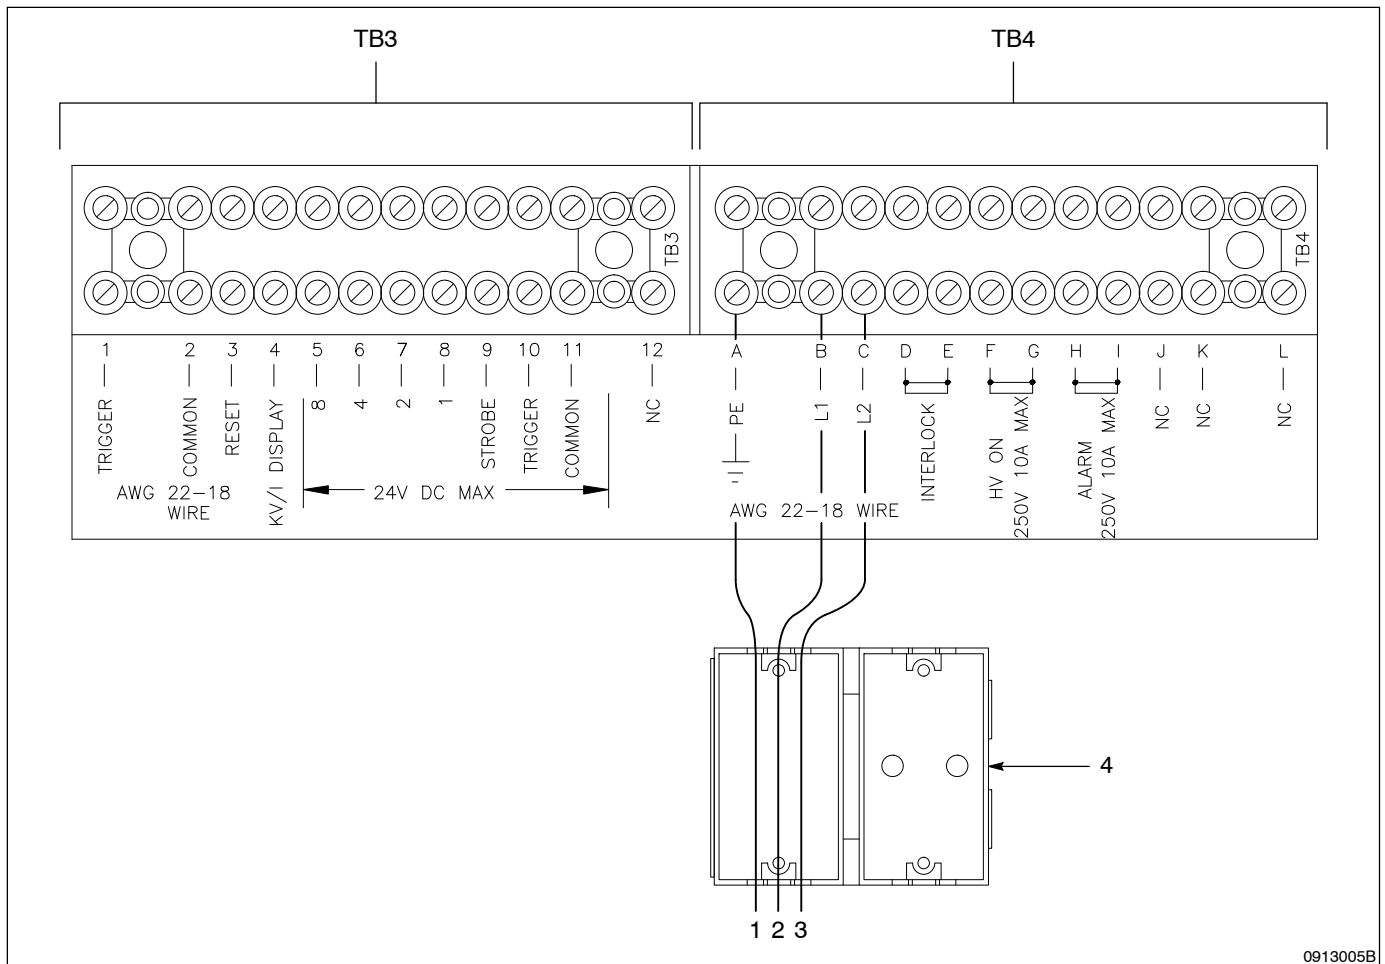

Fig. 4 EPS6 Terminal Block (TB3, TB4) Connections
See Figure 4 and make the following terminal block connections on TB3 and TB4:
- b. See Figure 4. To use an electromechanical relay to provide contact closure when you actuate the gun, connect the relay contacts to TB3-1 and TB3-2.
See Figure 4 to make these optional terminal block connections at TB3.